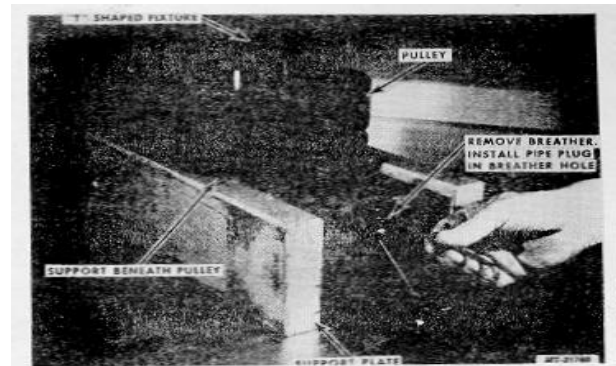
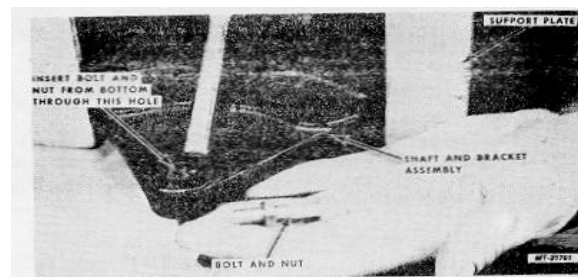
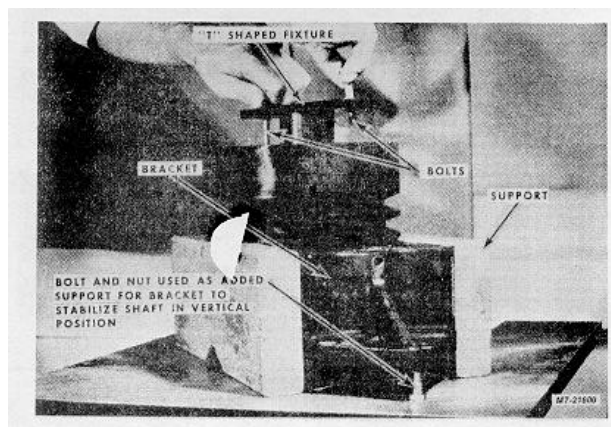

Fig. 68
Fig. 69
Fig. 70
- 32. To prevent damage to Oil Seal the shaft must be stabilized in a vertical position. If the bracket is long and extends quite a distance to the side such as is shown in Fig. 68, additional support may be needed. A short bolt and nut, Fig. 69, may be used to support the shaft in a vertical position as is shown in Fig. 70.
- 31. Install Pipe Plug in the breather port, Fig. 68.
33. Remove the two bolts and "T" shaped fixture SE-2782-5, Fig. 70.